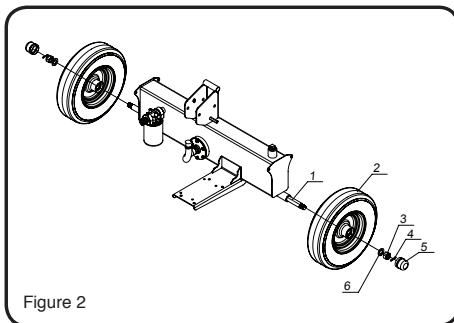

Figure 2
2. Once installed, bend both ends of the cotter pin to prevent its loss. Rotate the wheel and observe for smooth and free movement. (See fig. 2)